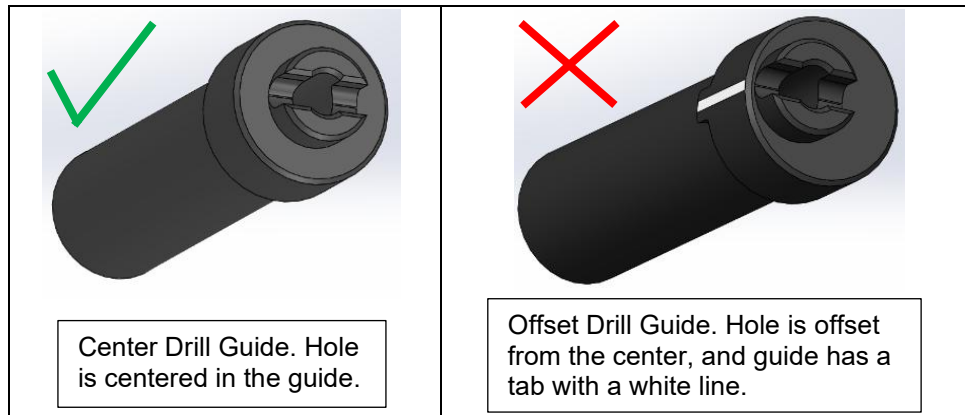
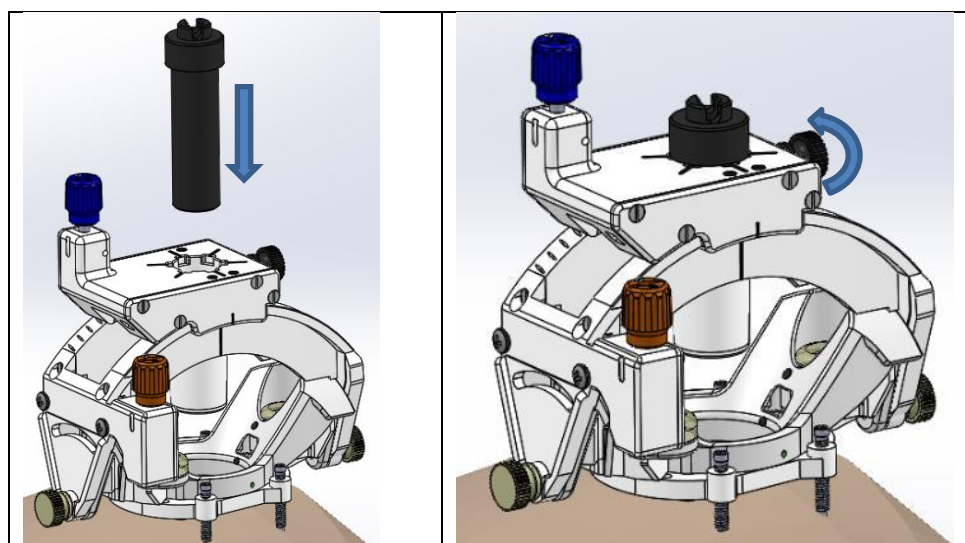

Figure 73: Center Drill Guide (Left) and Offset Drill Guide (Right). Only use the Center Drill Guide if creating an access hole in the OR.
Figure 14: Inserting the Center Drill Guide into the SMARTFrame Array Tower
10. If creating the access hole in the Operating Room, insert the Center Drill Guide (see Figure 14), which is colored black and has a hole through its center with a slotted feature on the top surface. **See Figure 73 (Left). DO NOT use the Offset Drill Guide at this time.** The Offset Drill Guide has a tab with a white line and a hole that is not centered within the Guide. **See Figure 73 (Right).**